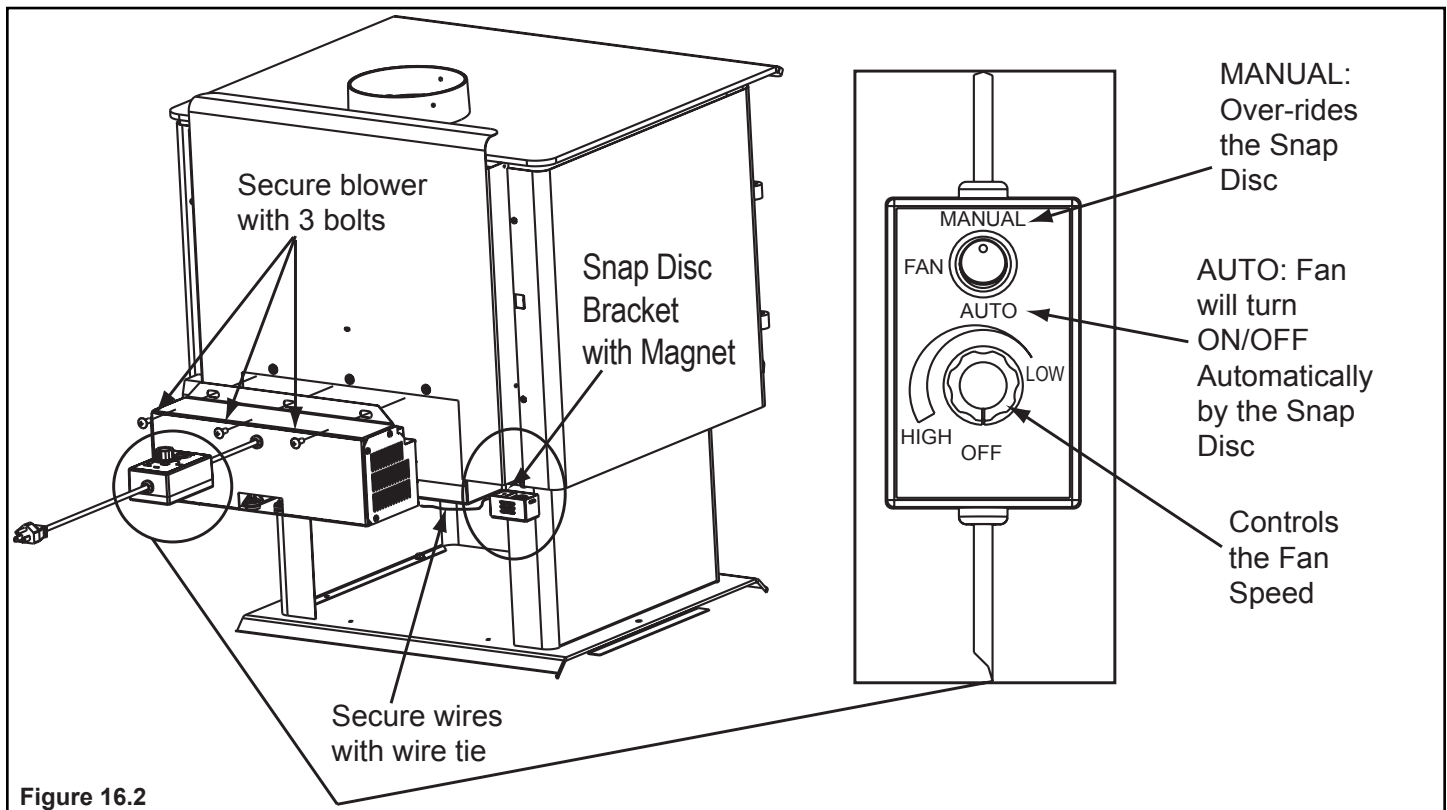

Figure 16.2
2. Align holes in mounting flange of blower with bolt holes in appliance. Blower should be positioned at bottom of rear outer skin as shown in Figure 16.2